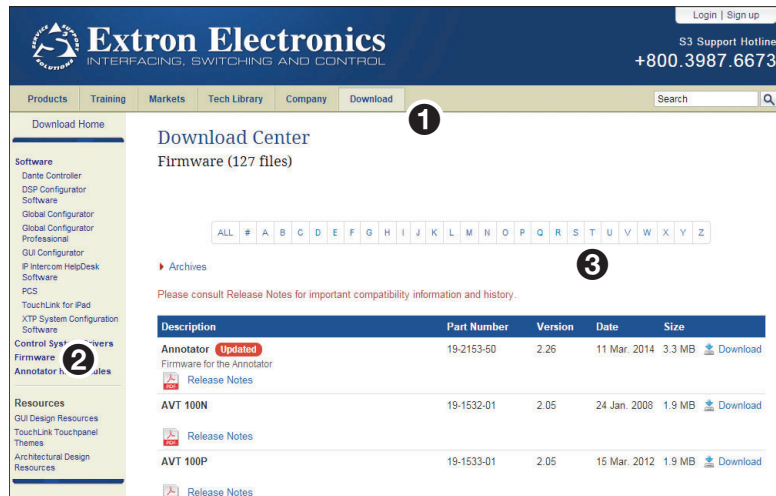

Figure 20. Firmware Download Center
2. On the Extron website, click **Download** in the menu bar along the top of the page (see figure 20, ❶).